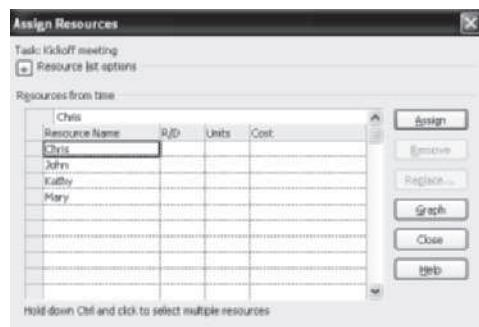

FIGURE A-41 Assign Resources dialog box
- Open the Assign Resources dialog box. Click the Resource tab, and then click the Assign Resources button in the Assignments group. The Assign Resources dialog box, as shown in Figure A-41, displays.